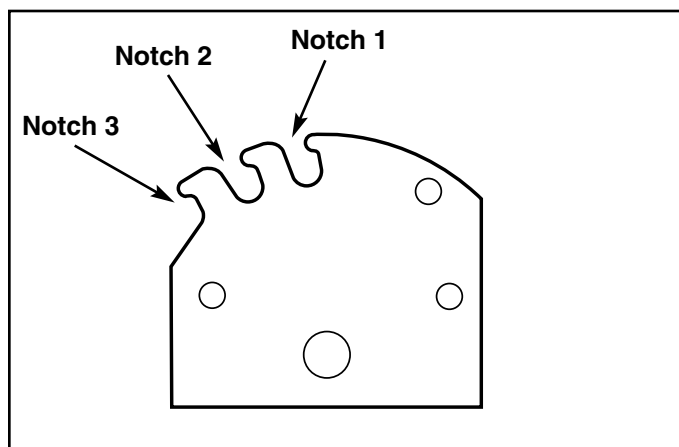

Figure 7. Lift Lever Quadrant - Side View
The lift lever can be placed in one of three notches and is held in position by the lever latch. (see Figure 7). When the lever latch is placed in notch 1 the lift lever should be applying downward pressure on the attachment. In position 2, the "float" position, the attachment should experience negligible upward or downward pressure. Position 3 should raise the attachment approximately 6" above the ground.
1. Place the lever latch in notch 3 (see Figure 7). The snowthrower should be approximately 6" off the ground. If not, go to step 2.
2. Lower the attachment and adjust the front set collar (A, Figure 7) to achieve the correct lift height.
1. Move the lever latch from notch 2 to notch 1 (See Figure 7).